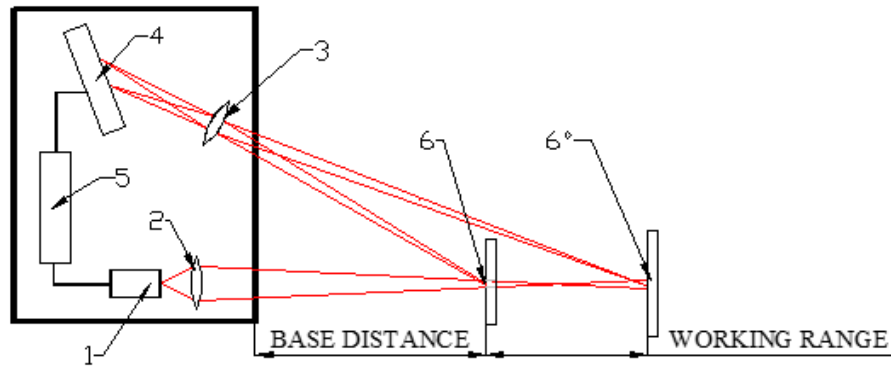

Figure 1
The main component of the probe is a laser sensor. Operation of the laser sensor is based on the principle of optical triangulation (Figure 1). The sensor contains a semiconductor laser (1) with the forming optics (2), the receiving lens (3), the CMOS array (4), and the controller (5).